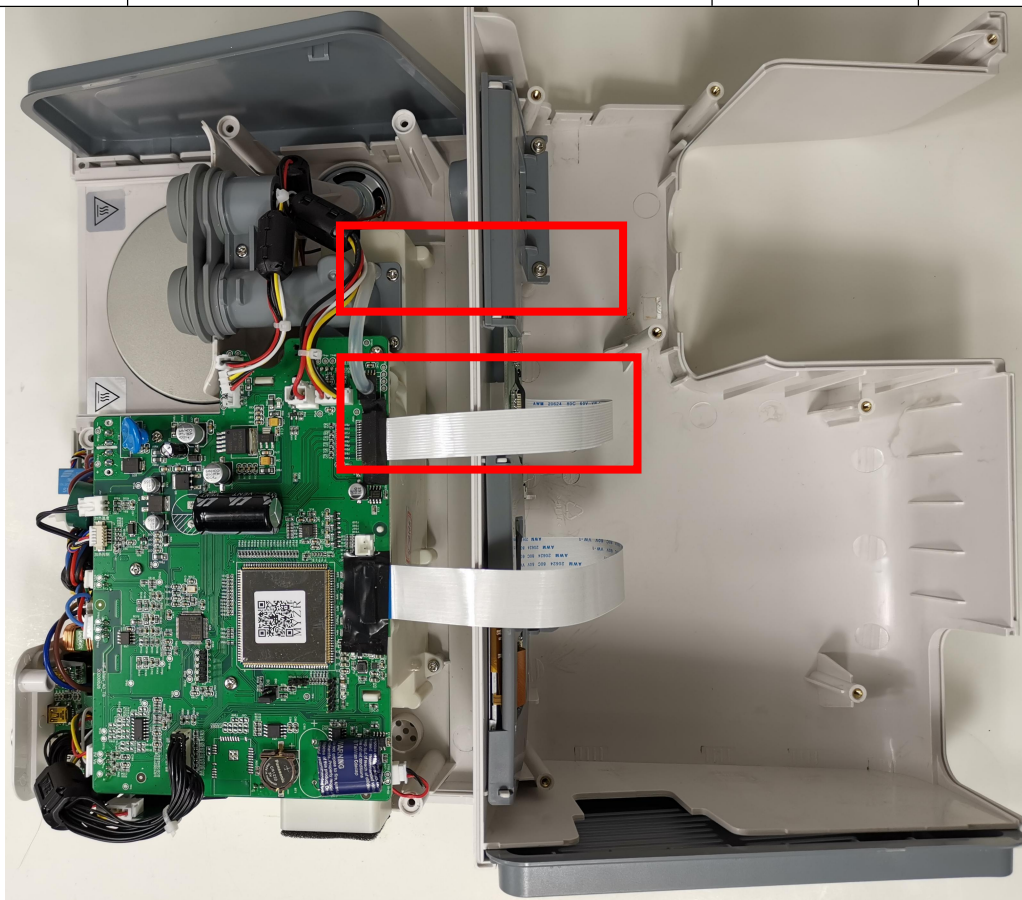

Figure3-2-3
③ After pushing up the upper case, carefully put it on the desktop and pay attention to the connection line between the upper case and the motherboard (shown in Figure 3-2-3).